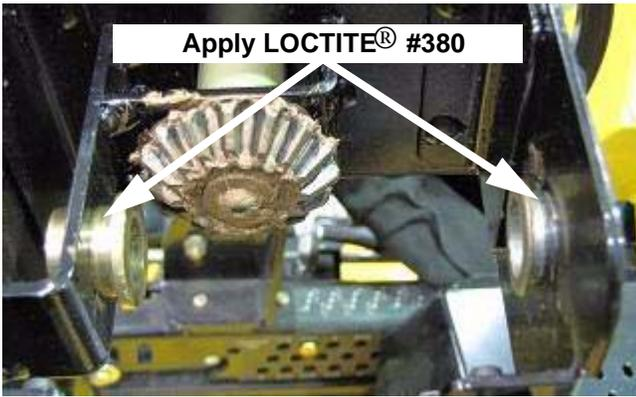

FIGURE 7
10. If the flange bearings are loose and no damage is evident to the steering housing assembly or the flange bearings, apply LOCTITE® #380 instant adhesive to the outer part of the bushings as shown in Figure 7.